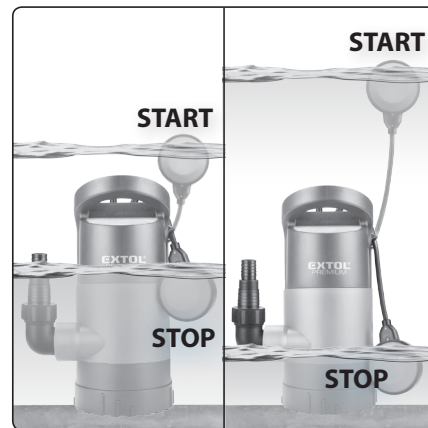

Fig. 4, Illustration of float switch function
- The working principle of the float switch is shown on a different pump model in fig. 4. The motor is running when the float switch is raised by the required water level height in respect to the set length of the float switch cable. When the float switch is lowered towards the pump unit by the effect of the water being pumped out, the water level falls, and the motor will shut off. For the purpose of protection, i.e. to prevent the pump running without water, the function of the float switch is set in such a way that when the length of the float switch cable is set to maximum it is not possible to completely pump out all the water.